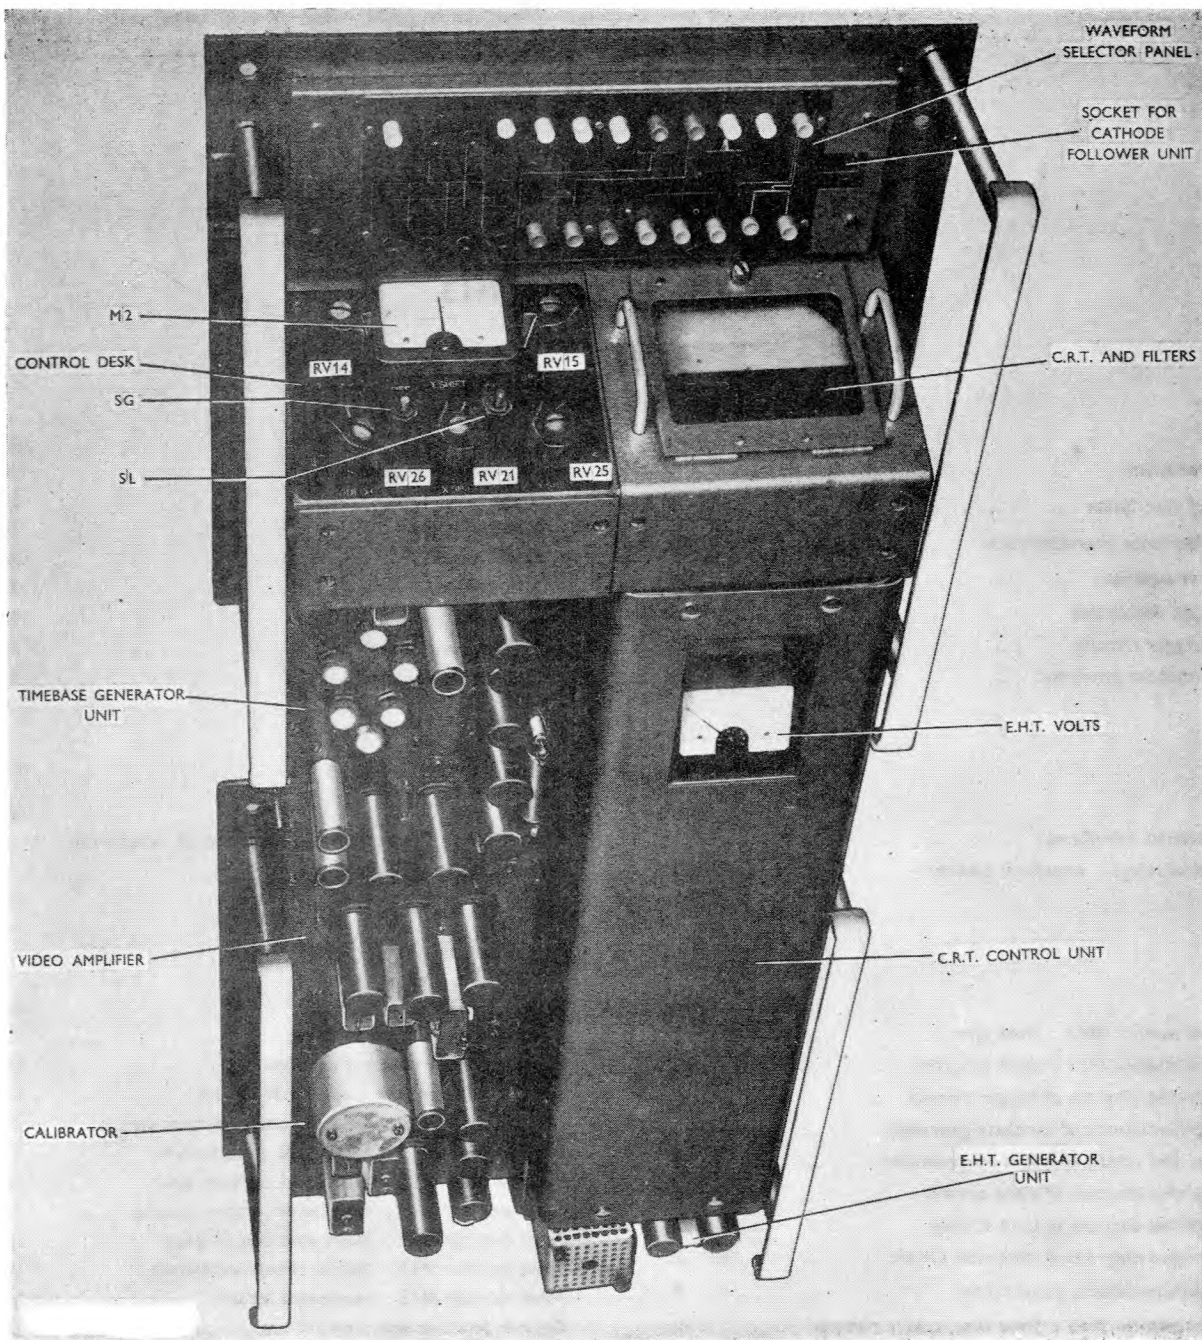

Fig. 1. Panel monitor M13: front view
4. The panel consists of a main frame (*fig. 1*) on which are mounted several sub-units and switch assemblies. The operating controls are grouped together on a control desk beside the c.r.t.